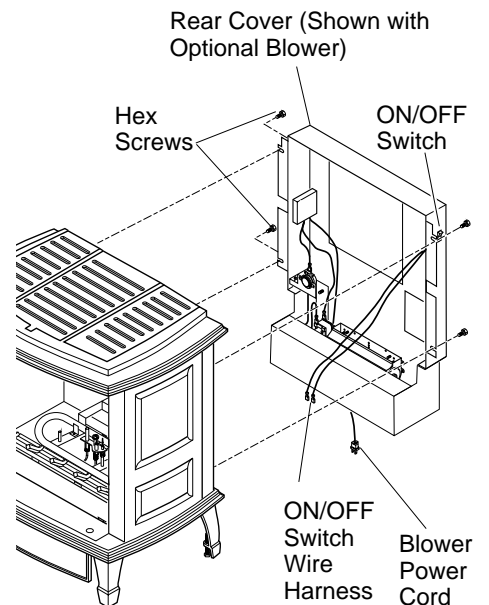

Figure 19 - Installing Rear Cover (Shown with Optional Blower Accessory)
3. Using hex screws provided, attach rear cover to back of stove body. See Figure 19.